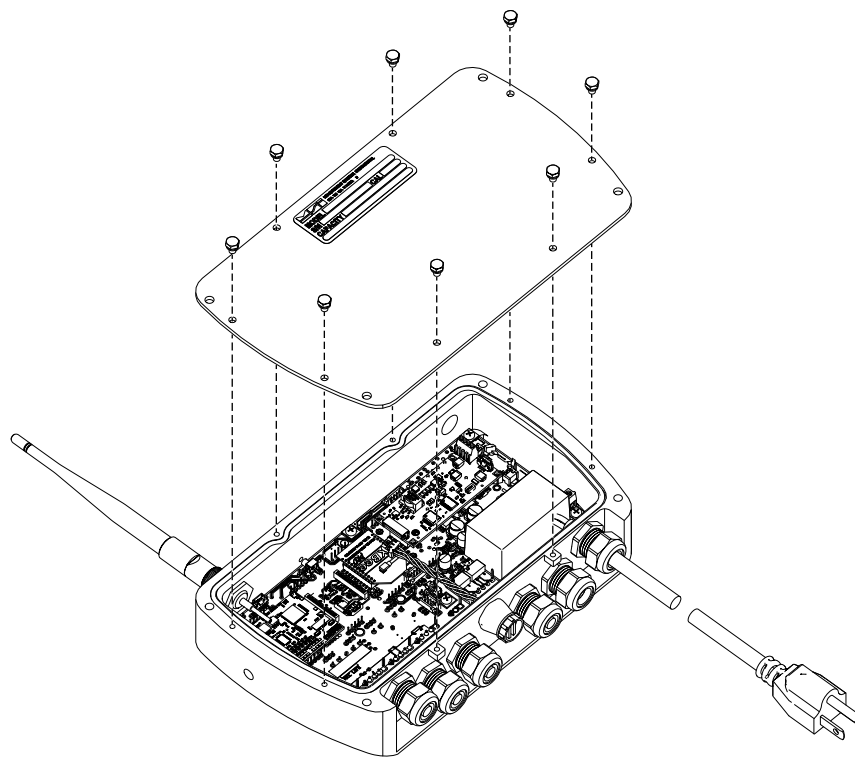

Figure 2-3. Open Enclosure
5. Push new cable through the cable connector and reconnect wiring as shown in Figure 2-3.